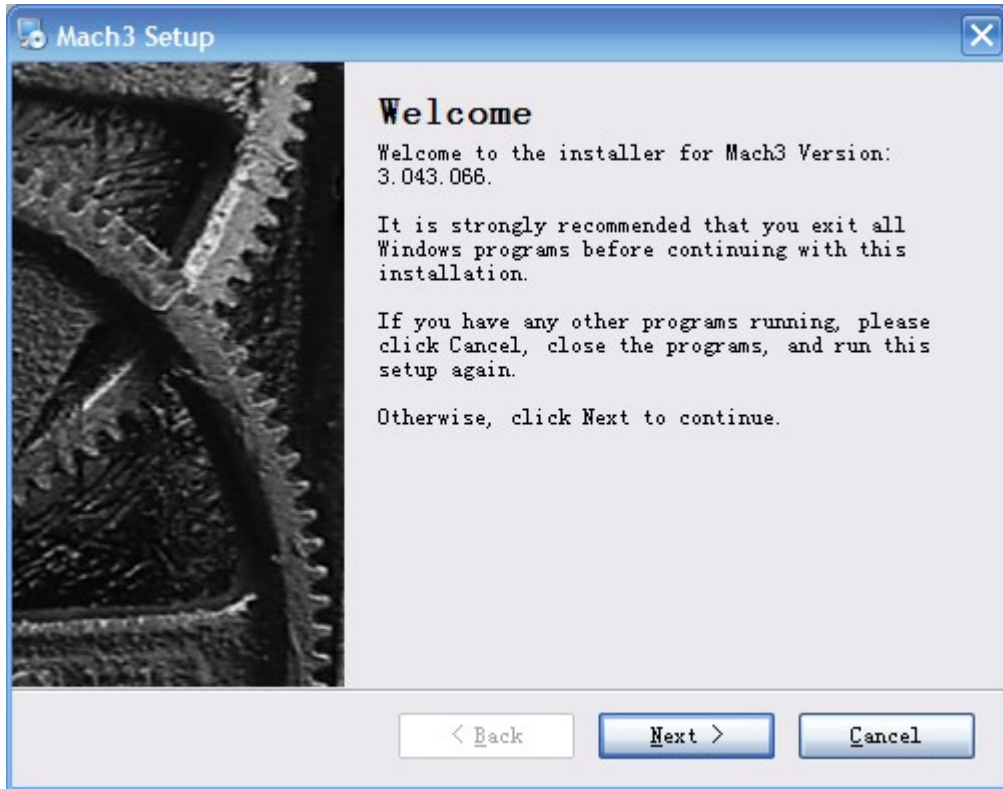

Figure 3-2. MACH3 installation process 1
**First run the installation Mach3Version3.043.066** first page. See as Figure 3-2.